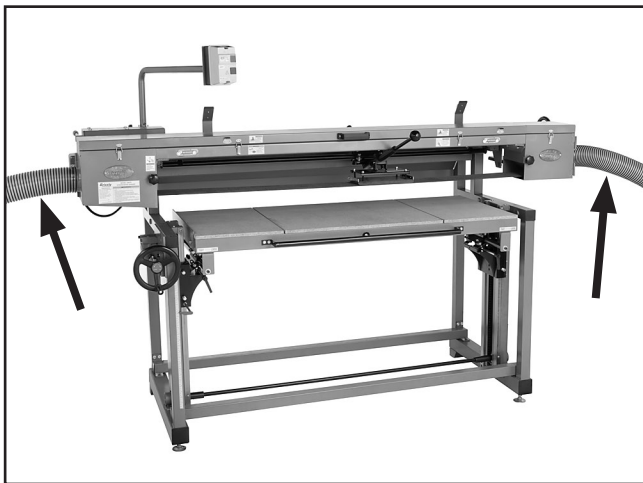

Figure 34. Dust hose attached to dust ports.
1. Fit the 4" flexible dust hose over the dust ports located at each end of the belt assembly, as shown in **Figure 34**, and secure them in place with hose clamps.